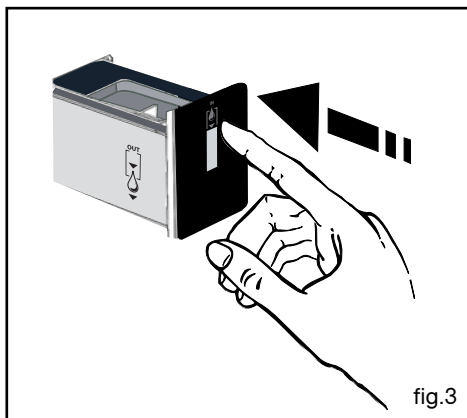

fig.3
Then, close the drawer by pushing it in (fig. 3).
- Keep your finger on the  button for the entire emptying cycle (fig.3), about 3 minutes for 1 litre.
- Keep your finger on the  button for 3 seconds (fig.3),